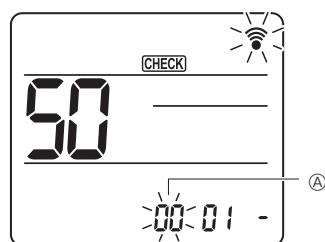

Fig. 15-2
Press the **[DOWN]** button to set unit number ①. (Fig. 15-2)